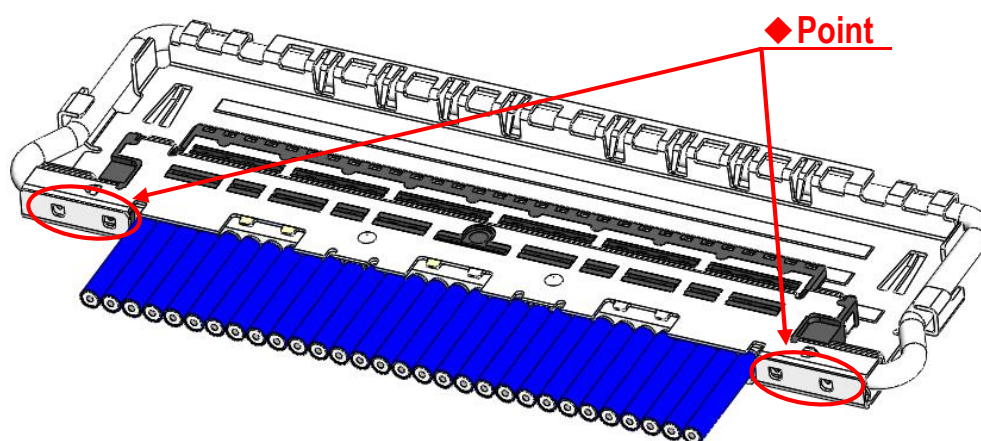

Fig.14 Soldering of Shell-A and Shell-B
⑤ Soldering shell-A and shell-B with the soldering iron at all designated points is recommended. (Fig.14 ◆ Point)